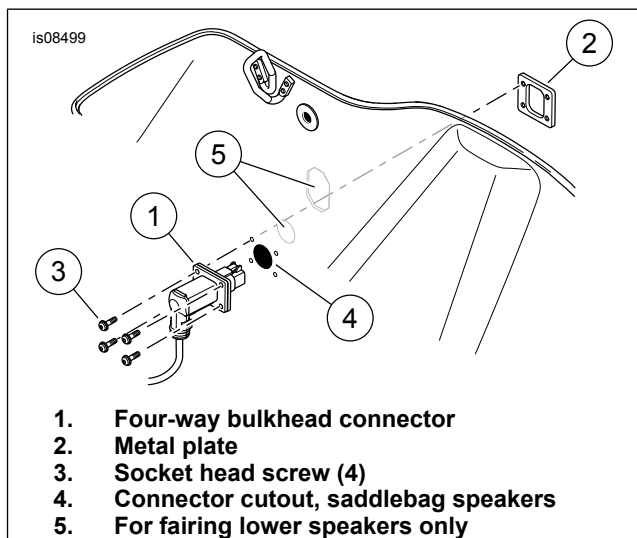

Figure 2. Four-Way Harness Connector Installation
8. See Figure 2. Remove the metal plate (2) from the four-way bulkhead connector (1) on the saddlebag harness. Insert the connector through the saddlebag hole (4) from the inside.